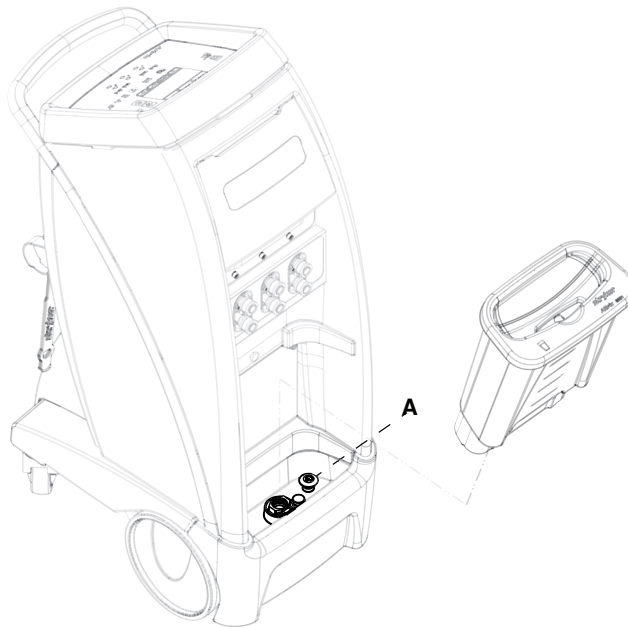

Figure 46 – Drain plug
2. Remove the reservoir and pull up on the controller drain plug (A) to open the drain (Figure 46).